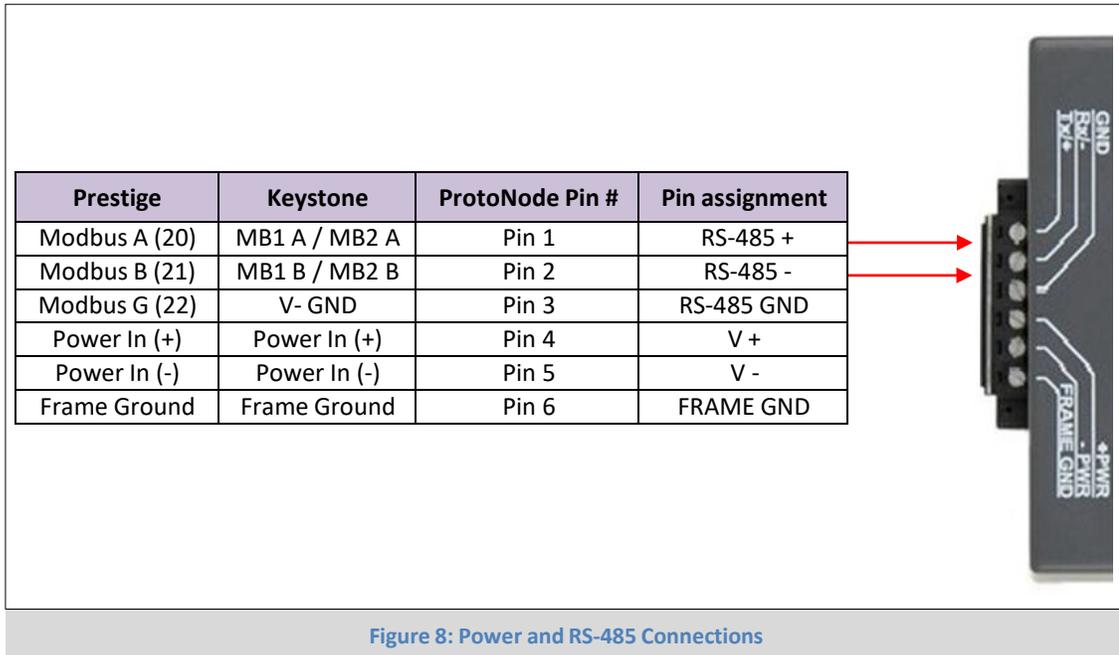

Figure 8: Power and RS-485 Connections
- Reference the table in Figure 8 for Prestige and Keystone wiring terminations.